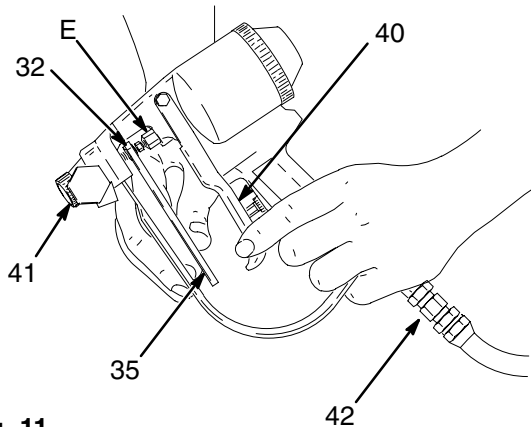

Fig. 11
12. Screw on the air cap (41). Connect the air hose of the heated hose assembly to the inlet bushing (42) of the gun. See Fig. 11.
13. Use the 7/16" end of wrench (35) to adjust the packing nut (32) until it is *just snug*. Don't overtighten it! See Fig. 11.
14. Install the plastic shield (43) around the exposed part of the needle assembly (E) to keep foam overspray from collecting on the needle. See Fig. 11.